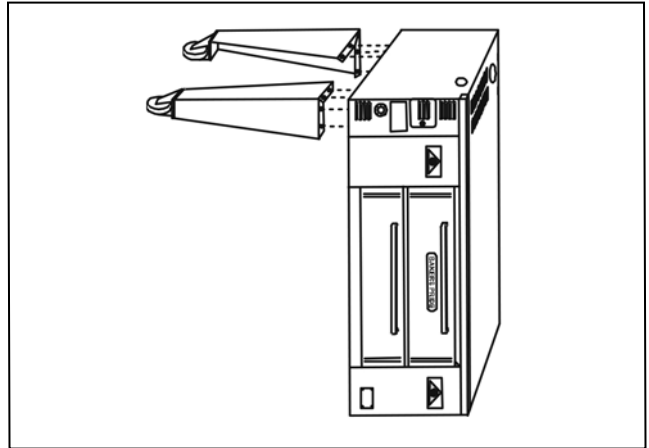

Figure 4
- Bolt two legs to the two upper corners (front) of the oven as it stands on the skid (See Fig. 4).